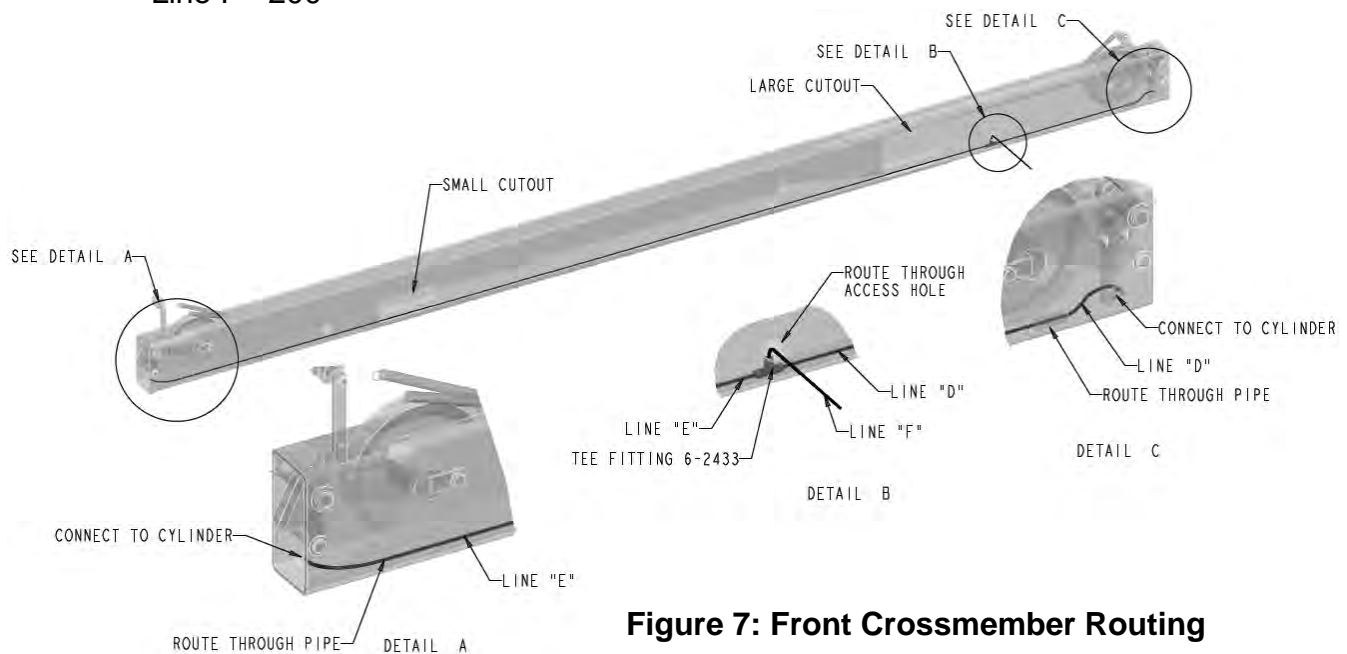

Figure 7: Front Crossmember Routing
3. **Refer to Figure 7.** Connect one end of "Line D" to the Tee fitting. On the opposite end of the tee fitting, connect "Line E". Connect "Line F" to the remaining port on the tee fitting.